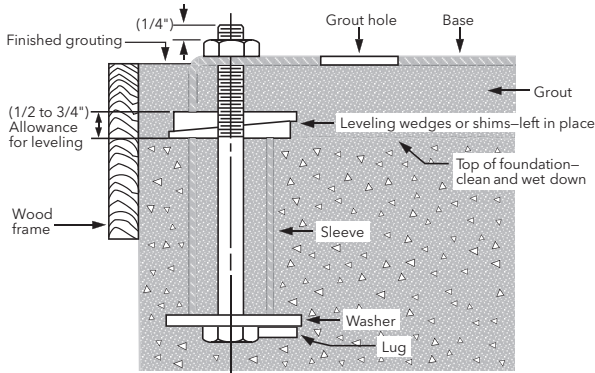

Figure 1
- 2.3.1.** It is recommended that the bedplate be grouted to a foundation with solid footing. Refer to Figure 1.